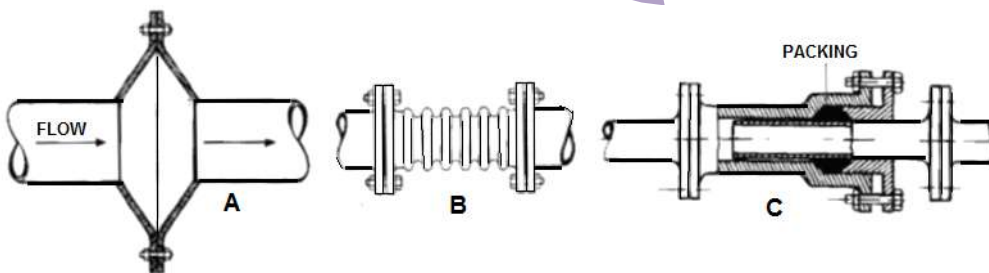

FIGURE 2
6.2 Name the THREE methods of accommodating expansion and contraction in pipe lines as shown in FIGURE 2. Write only the name of the joint next to the letters (A-C) in the ANSWER BOOK.